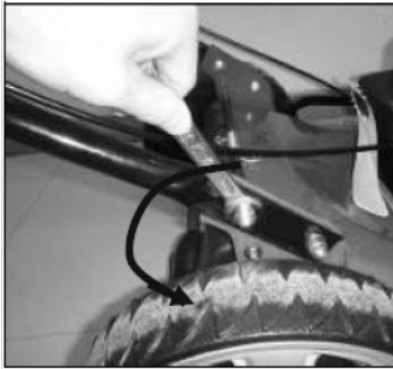

Fig. 2A
1. Fix the lower handlebars into the unit body with a suitable spanner. (Fig. 2A)